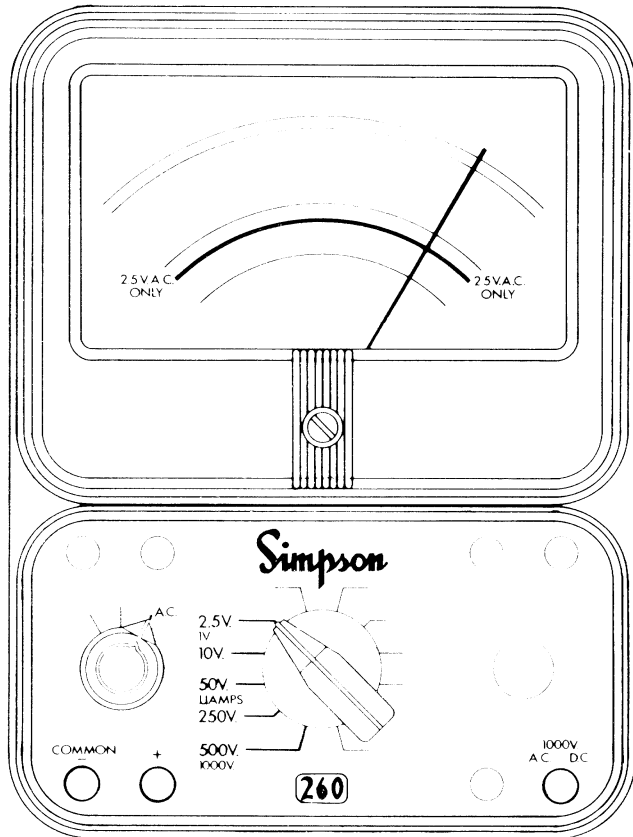

Figure 4-3. Jacks and Switch Positions for Measuring AC Voltage
- Set the function switch at AC (Figure 4-3).